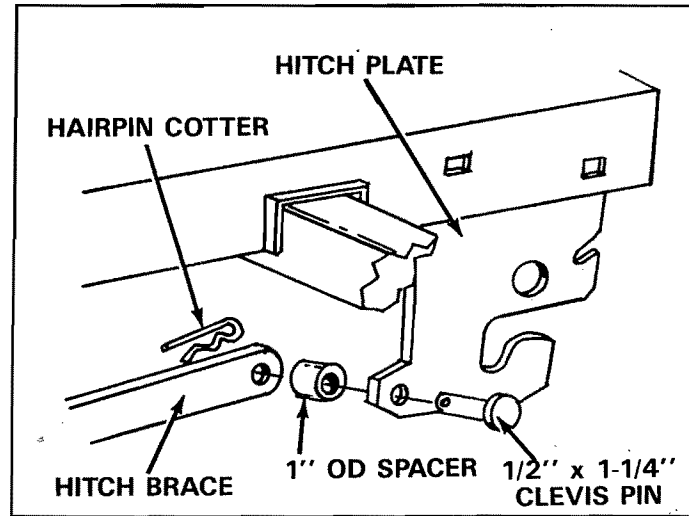

FIGURE 16
16. Assemble the front end of each hitch brace to the rear hole in each hitch plate using one 1/2" x 1-1/4" clevis pin, one 1" OD spacer and one 1/8" hairpin cotter. See figure 16.
5. Refer to figure 16 on page 7 and remove 1/8" (large) hairpin cotter from each clevis pin that holds each hitch brace in place. Remove hitch braces and spacers. Reassemble clevis pin and spacer to each hitch brace for storage.